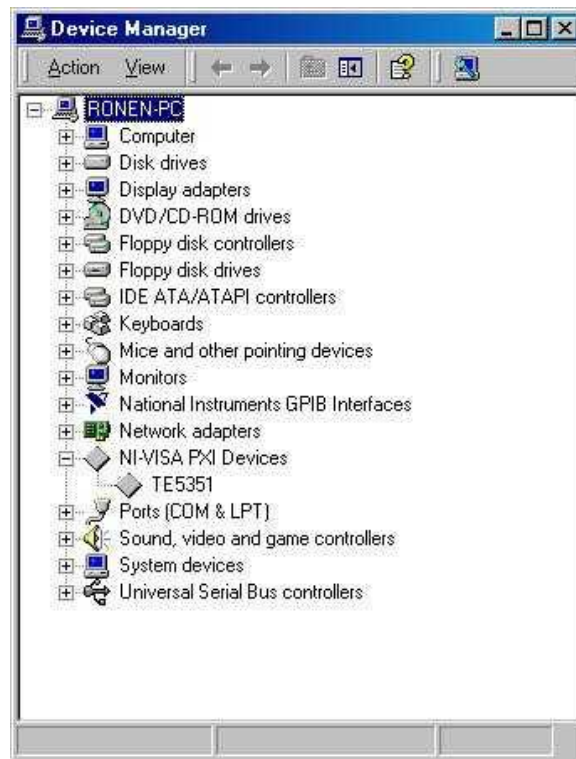

Figure 2-7 – Device Manager
5. Click on Tabor Electronics. If you installed the driver properly, your device manager should show the Arbitrary Waveform Generator Model 5201 as shown in figure 2-7.